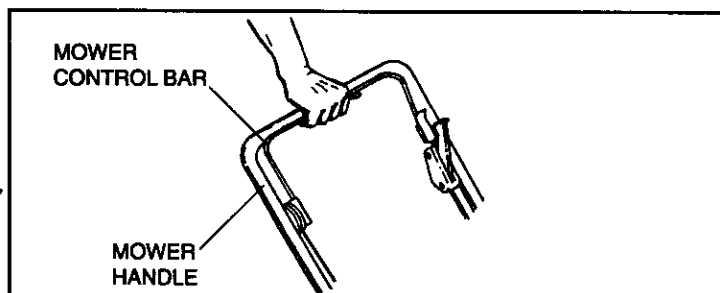

Figure 3
A. Depress mower control bar (see Figure 3) against mower handle and hold it in this position.